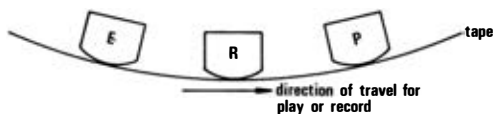

FIG. 21. Three-head layout
The three heads arranged as shown in Fig. 21 are the erase head (E) which cleans the tape of any signals previously recorded on it, the record head (R) which puts a new magnetic signal on the tape, and the playback head (P) which detects these signals and reproduces them